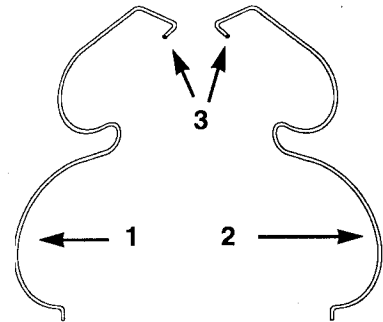

Figure 87
- A. Identify the left and right hold-down springs (Fig. 87).